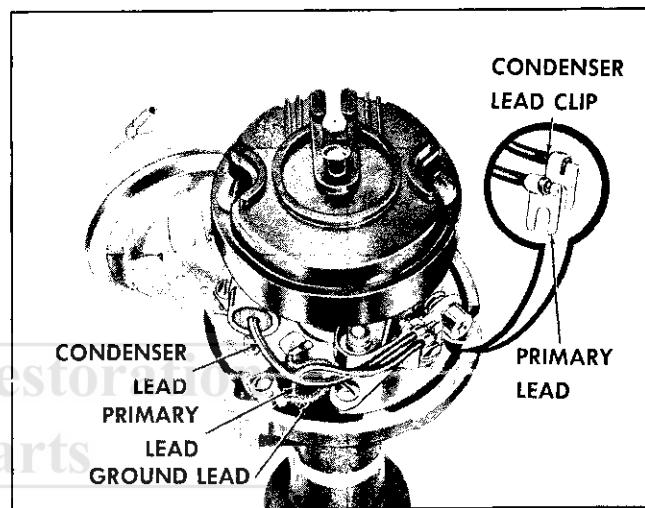

Fig. 6E-25 Arrangement of Leads
2. Remove condenser lead and primary lead from nylon insulated connection (Fig. 6E-25) in contact set.
CAUTION: Make sure condenser lead and primary lead are located as in Fig. 6E-25. Leads must be properly located to eliminate interference between leads and cap, weight base or breaker plate.